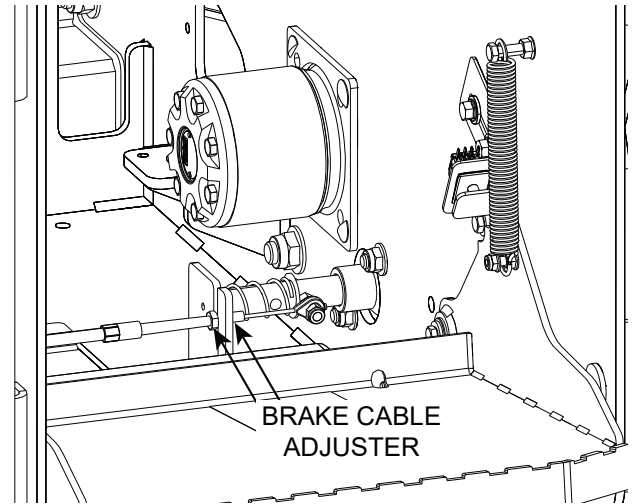

Figure 5-1. Brake Adjustment Location
6. If the brake shaft does not clear the track sprocket, adjust as needed. Loosen the nuts on the parking brake cable adjuster and then turn the adjuster until the cable is taught, not tight. See Figure 5-1.